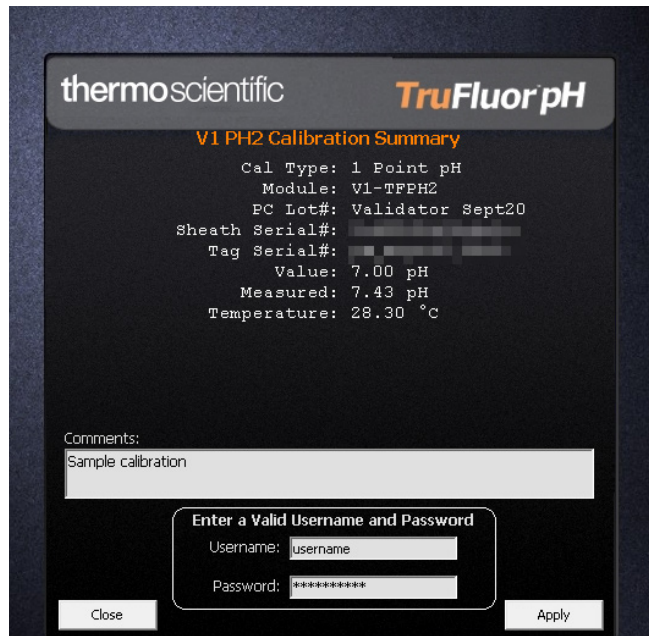

Figure C.8. Calibration summary screen.
- At the **Calibration Summary** screen, enter any notes in the **Comment** field, if desired. Then, enter a valid username and password, and click **Apply** (Figure C.8).